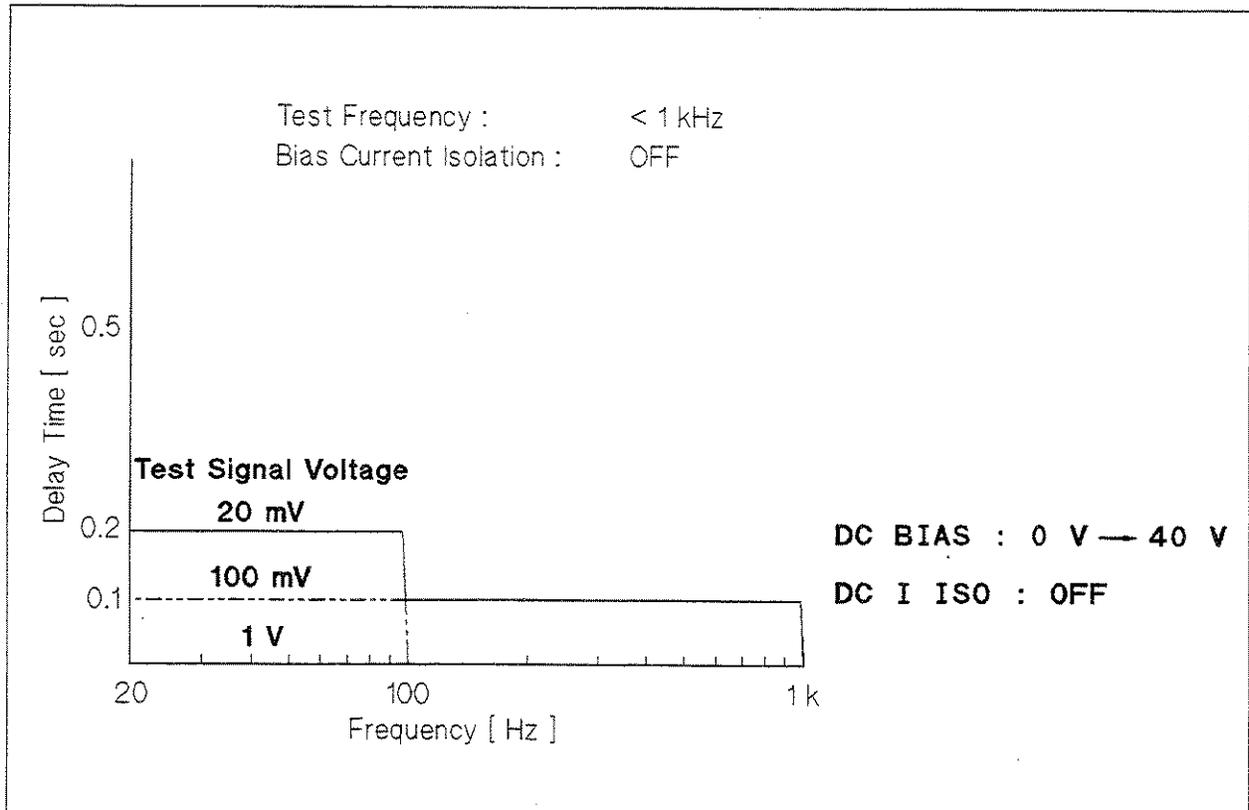

Figure G-4. Required Delay Times After Changing the DC Bias (1)
1. After changing the measurement range under the following conditions, use the appropriate delay times as shown in Figure G-4.